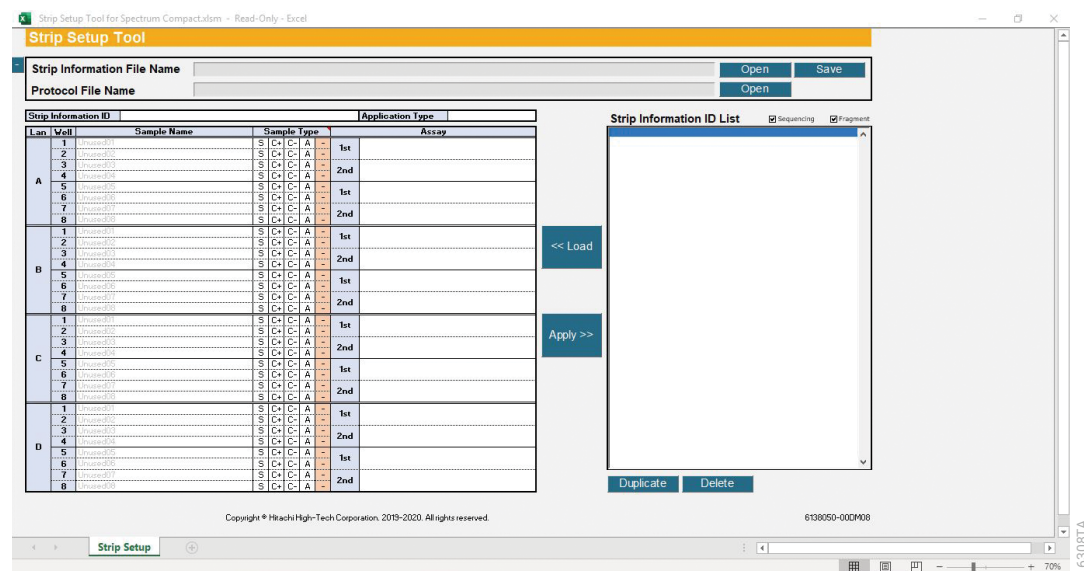
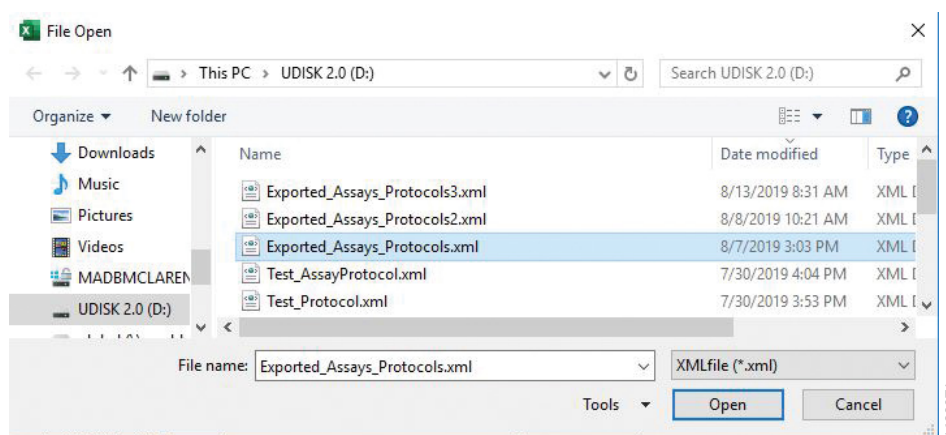

Figure 207. Strip Setup Tool for Spectrum Compact.
Figure 208. Browsing window.
1. Select **Open** on the right-hand side of the Protocol File Name box (Figure 207). This opens a browsing window. Browse to the location of the protocols .xml file created using the Protocols Setup Tool for Spectrum Compact and select **Open** (Figure 208). A Microsoft® Excel® window will appear stating "Protocol file read complete".